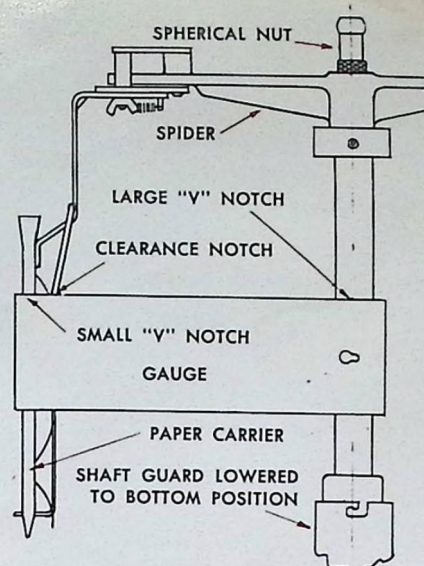

Figure 3. Paper Carrier Alignment Gauge
b. With transmission outer shaft guard lowered and a paper carrier directly in front of you, at its uppermost position, place large "V" notch of gauge firmly against transmission shaft (not shaft tube housing) and, holding "V" notch against shaft, rotate other end of gauge toward you until the small "V" notch comes to rest against the vertical edge of the paper carrier (see figure 3).